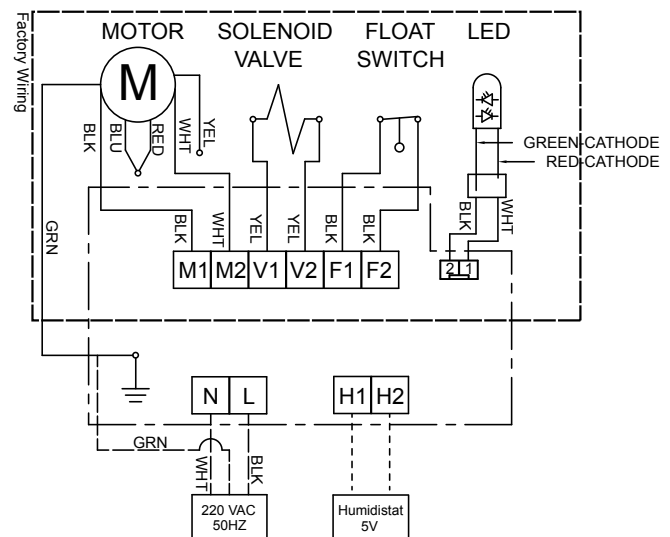

Figure 8
- UK (CE) models must be wired for 220 VAC from a protected circuit wired in accordance with any applicable codes or standards. It is the responsibility of the installer to ensure compliance with these codes. Disconnection means shall be provided for fixed wiring. See Figure 8.